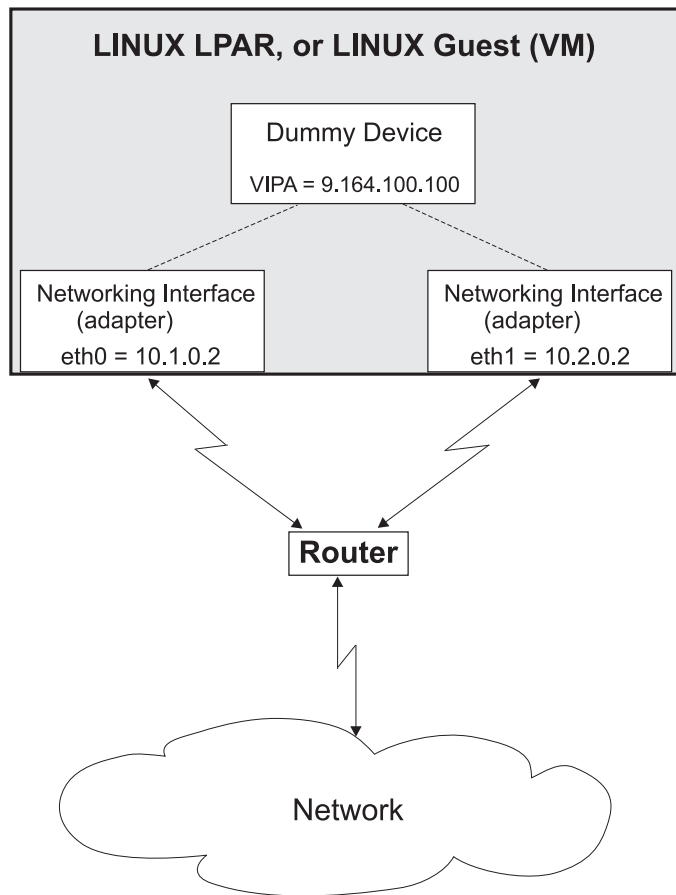

Figure 9. Example of using Virtual IP Address (VIPA)
- Static routing (shown in the example of Figure 9 on page 184).
Figure 9 shows the network adapter configuration used in the example.